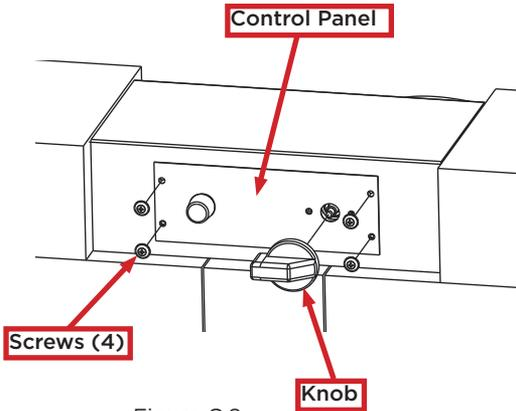

Figure C.8
- Push control panel back into block, making sure all connections are tucked in and not kinked. Using the four (4) provided metal screws, attach the control panel to the control panel block.
- Push valve knob onto the stem of the valve. See Figure C.8